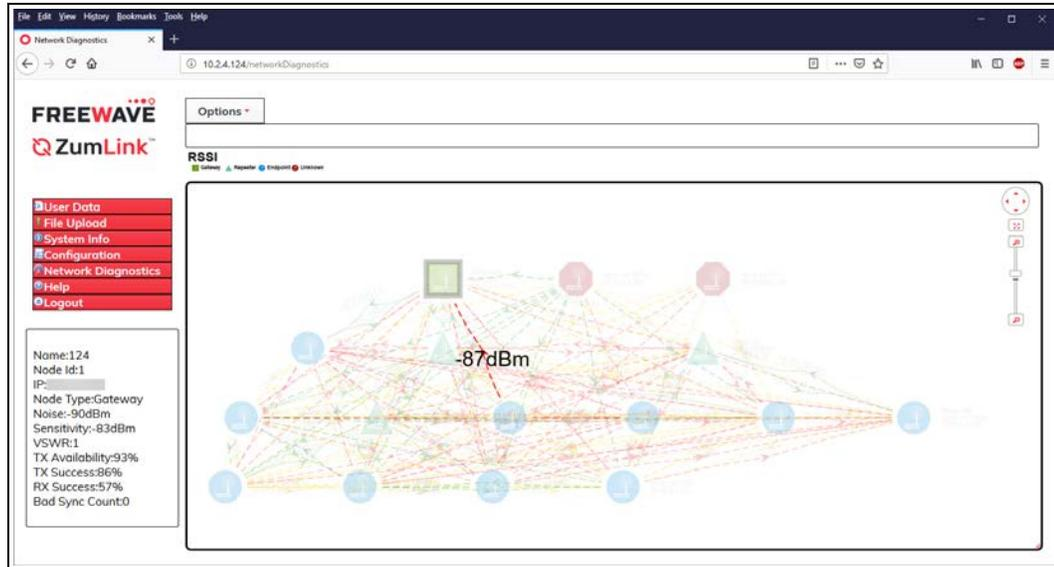

Figure 204: Network Diagnostics window - Margin with Neighbors - Gateway-Endpoint Link
- Optional: Use the cursor to hover over the Gateway-Endpoint link to view the dBm rate. Figure 204